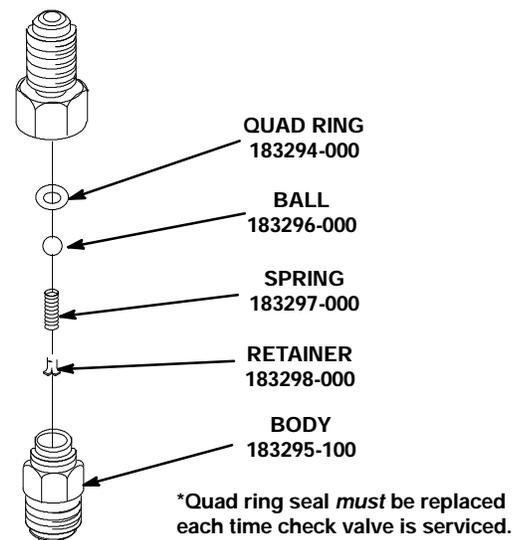

FIGURE 7. GAS CHECK VALVE
3. Disassemble the CO₂ gas check valve following Figure 7.